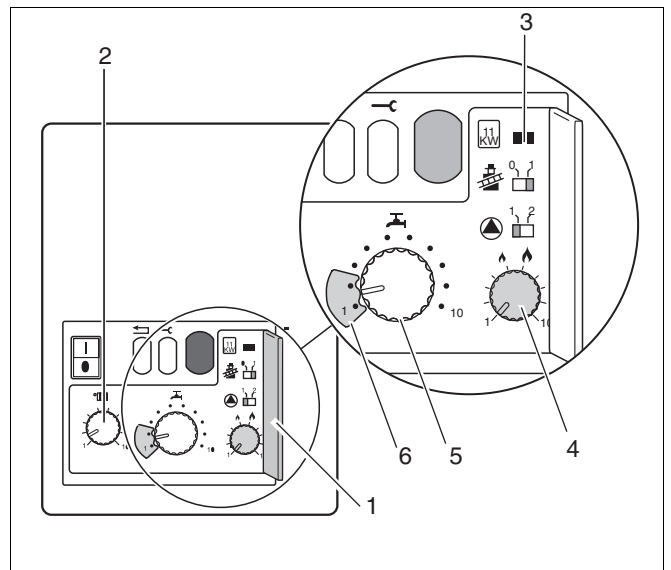

Fig. 31 Control box
- Adjust the knob (fig. 31, item 2) to the desired flow temperature (table 4) for your particular installation.
Key to fig. 31:
- Open the cover to the 2nd operating level (fig. 31, item 1).
- Set the heating capacity (table 5), according to the amount of heat output required for the system (fig. 31, item 4).